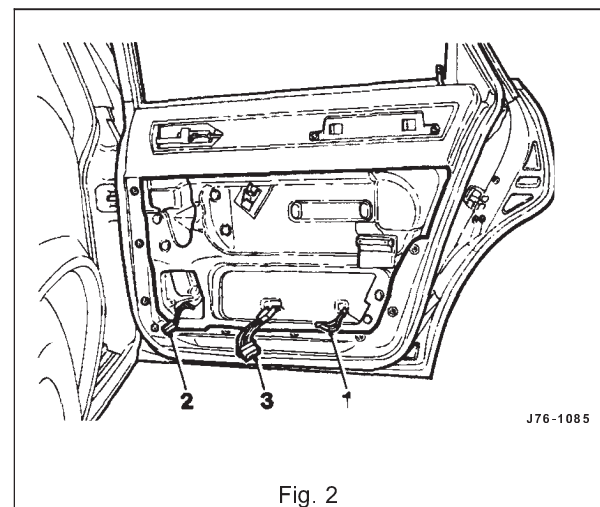

Fig. 2
- Disconnect lamp multi-plugs (1 Fig. 2) and remove lamp.
- Disconnect the door speaker multi-plug (2 Fig. 2) and the window lift switch multi-plug (3 Fig. 2).